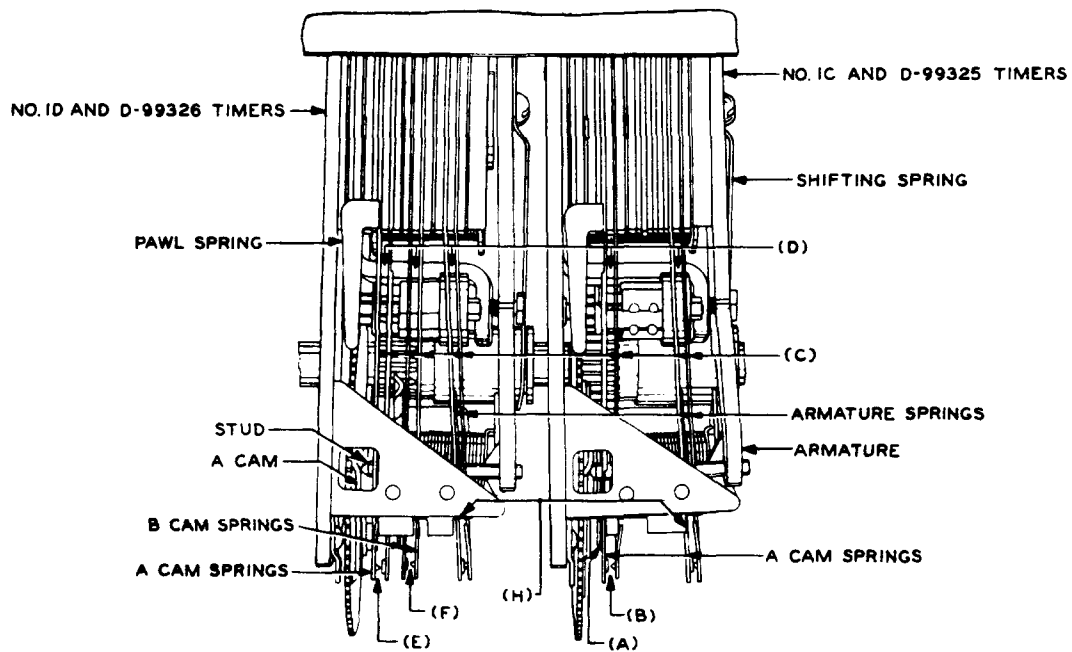

Fig. 18 - Timers - Top View
(b) "A" Cam Contacts (No. 1D and D-99326 Timers): Fig. 18(E) - With the timer gear rotated so that the stud of the bifurcated spring rests on the flat of the "A" cam and with the play in the timer gear taken up to the left, the contact separation shall be
(c) "B" Cam Contacts (No. 1D and D-99326 Timers): Fig. 18(F) - With the timer gear normal, the contact separation of the "B" cam contacts shall be
2.24 Contact Follow: Fig. 18(H) - With the timer unoperated, the gap between the tang of the armature solid contact spring and its associated stop shall be
2.30 Straightness of Springs: Fig. 18(C) -
2.31 Separation Between Springs: Fig. 18(D) -
(1) Time Between Closure and Reclosure of "A" Cam Contacts: Fig. 18(B) - The timing interval, measured from the closure of the "A" cam contacts, until the reclosure of these contacts shall be
(2) Time of Closure of "A" Cam Contacts: Fig. 18(B) - The time of closure of the "A" cam contacts shall be
(1) Time Between Closure and Reclosure of "A" Cam Contacts: Fig. 18(E) - The timing intervals, measured from the closure of the "A" cam contacts, until the reclosure of these contacts shall be
(2) Time of Closure of "A" Cam Contacts: Fig. 18(E) - The time of closure of the "A" cam contacts shall be
(3) Time Between Closure of "A" and "B" Cam Contacts: Fig. 18(E) and (F) - The timing interval, measured between the closure of the "A" cam contacts and the closure of the "B" cam contacts shall be